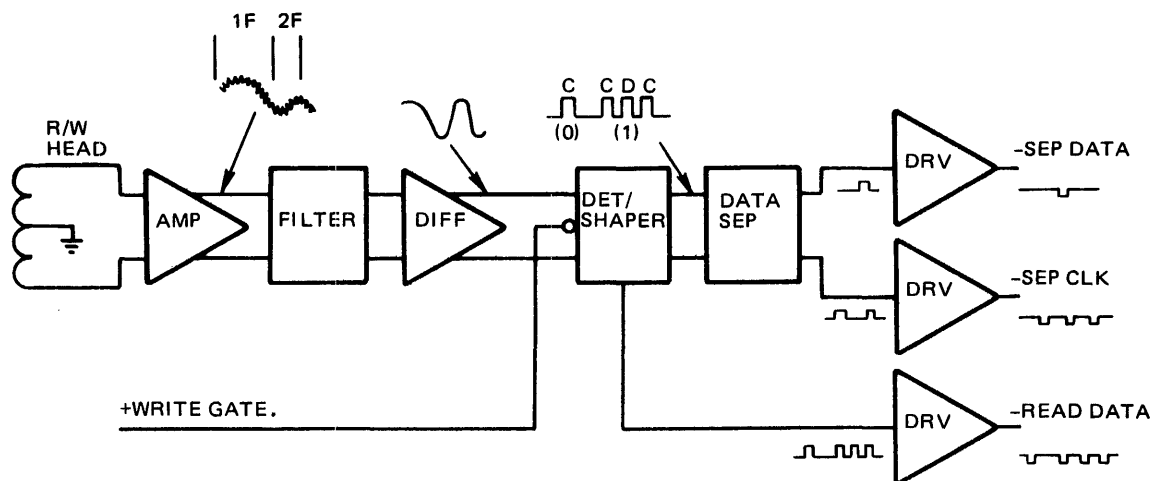

Figure 30 Read Circuit Functional Diagram
7.0 READ CIRCUIT OPERATION (FIGURE 30)
7.2 Since a pulse occurs at least once every $4 \mu\text{s}$ and when data bits are present once every $2 \mu\text{s}$, the frequency of the read data varies. The read signal amplitude decreases as the frequency increases. Note the signals on Figure 30. The differential amplifier will amplify the read signals to even levels and make square waves out of the read signals (sine waves).